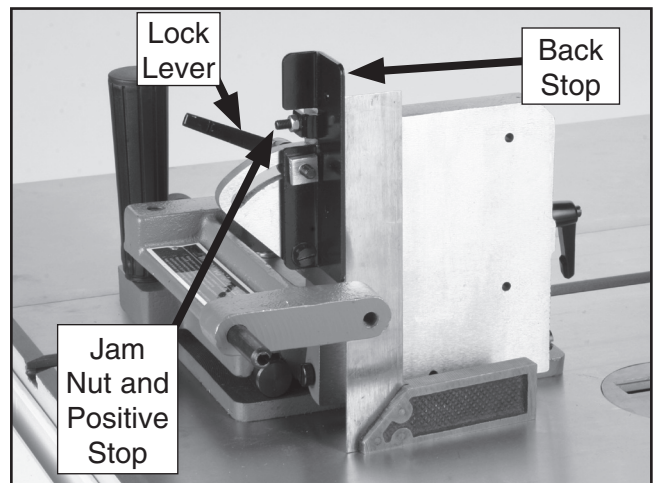

Figure 13. Machinist's square location.
2. Place the jig into the miter slot. Position a machinist's square against the back stop as shown in **Figure 13**.